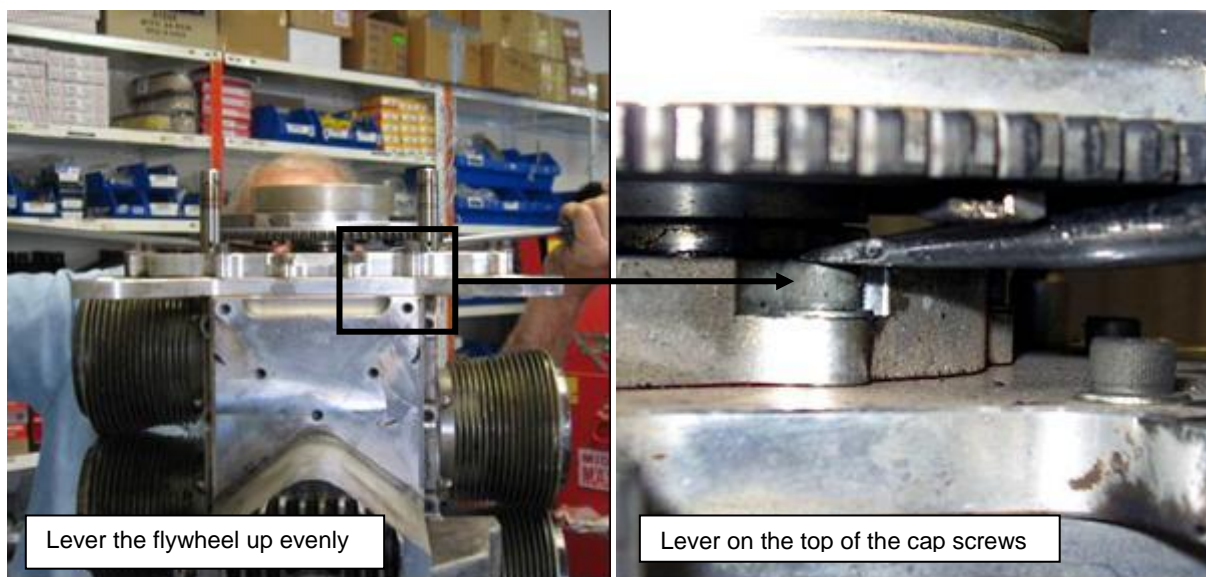

Figure 48 – Removing Flywheel
- Once all 6 cap screws have been removed the flywheel can be levered off of the crankshaft: note the leverage points in Figure 48, where 2 large screwdrivers are placed under the flywheel on the tops of opposing timing case cap screws and then moved evenly up to provide leverage to remove the flywheel from the crankshaft.